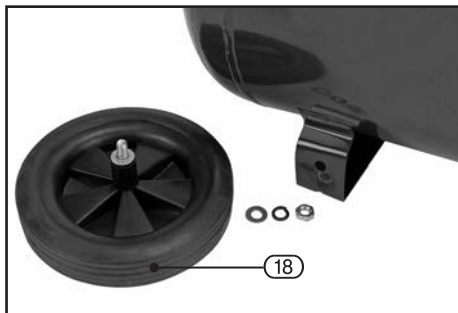

FIG.1
8.1 FITTING THE WHEELS – FIG. 1